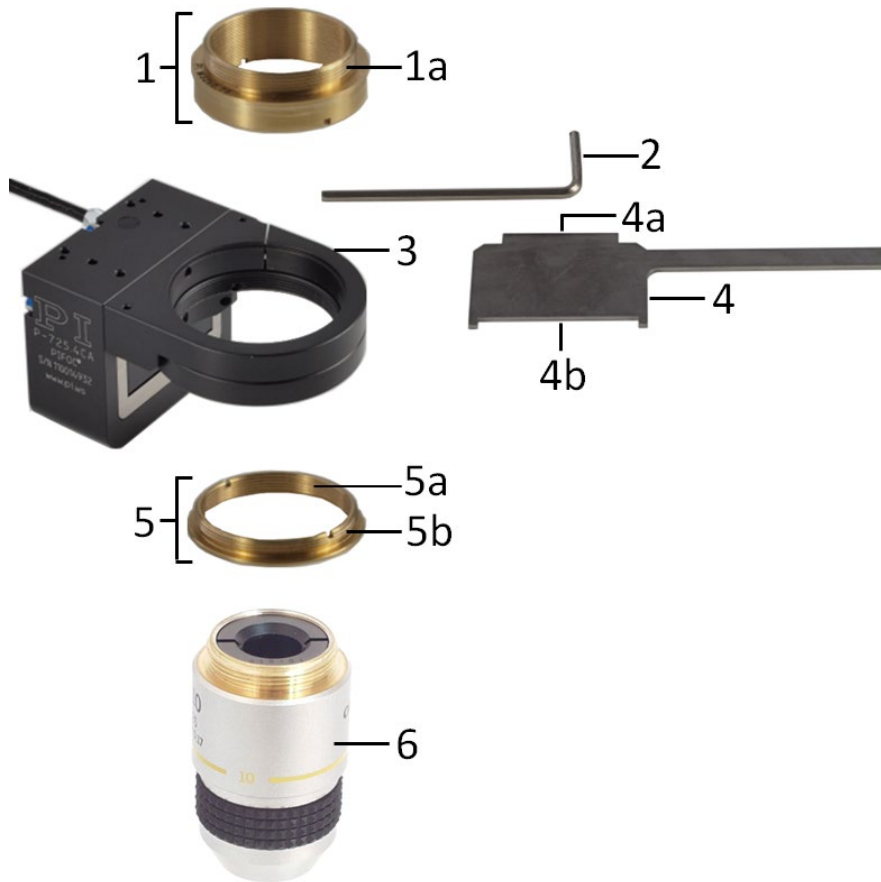

Fig. 6: P-721.xxA thread adapter with PIFOC positioner and microscope objective
- Hex key supplied (see Fig. 6, p. 19)
- Key tool supplied (see Fig. 6, p. 19)